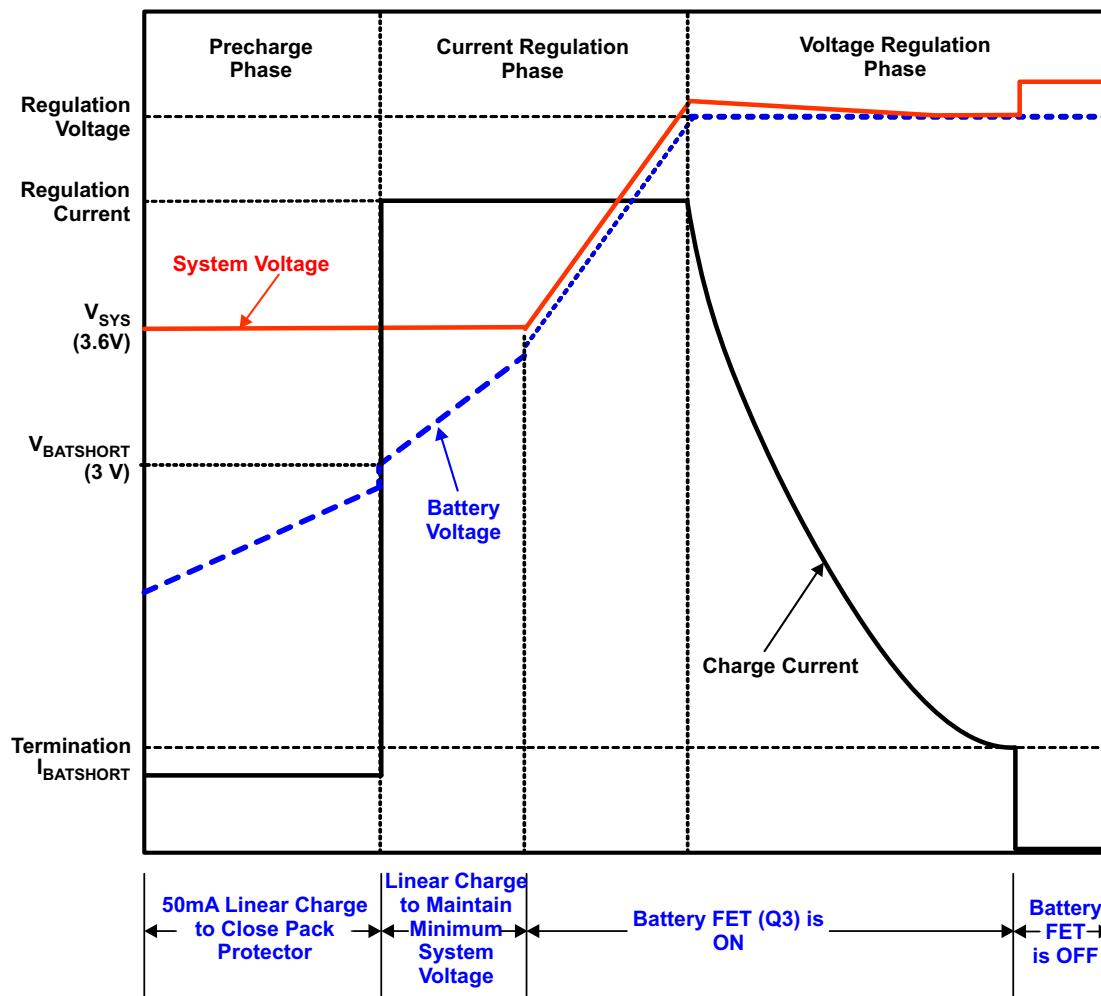

Figure 10. Typical Charging Profile of bq24266
The bq24266 supports a precision Li-Ion or Li-Polymer charging system for single-cell applications. Charging is done through the internal battery MOSFET. There are 6 loops that influence the charge current; constant current loop (CC), constant voltage loop (CV), thermal regulation loop, minimum system voltage loop (MINSYS), input current limit and VIN-DPM. During the charging process, all six loops are enabled and the one that is dominant takes control. The minimum system output feature regulates the system voltage to VSYSREG(LO), so that startup is enabled even for a missing or deeply discharged battery. Figure 10 shows a typical charge profile including the minimum system output voltage feature.
Once the battery is charged enough that the system voltage rises above  $V_{SYSREG(LO)}$  (approximately 3.5V), the battery FET is turned on fully and the battery is charged with the full programmed charge current set by ISET. The charge current is regulated to  $I_{CHARGE}$  until the voltage between BAT and PGND reaches the regulation voltage. The voltage between BAT and PGND is regulated to  $V_{BATREG}$  (CV mode) while the charge current naturally tapers down as shown in Figure 10. During CV mode, the SYS output remains connected to the battery. The impedance of the battery FET is increased to 4x of the fully on value when IBAT falls below ~350mA to provide increased accuracy during termination. This will show a small rise in the SYS voltage when the  $R_{DS(ON)}$  increases below ~350mA.